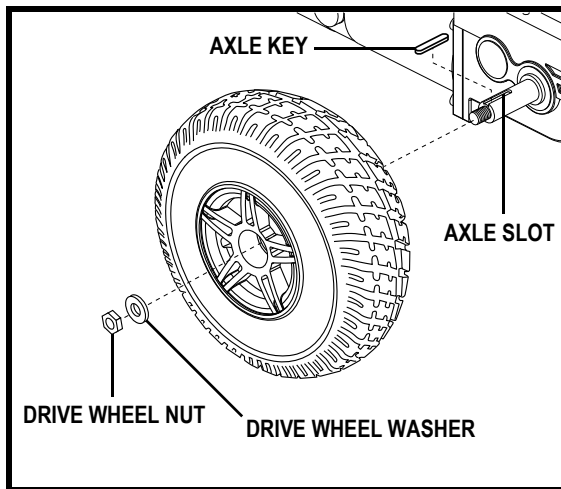

Figure 26. Drive Wheel Assembly
4. Remove the drive wheel nut and washer from the axle. See figure 26.